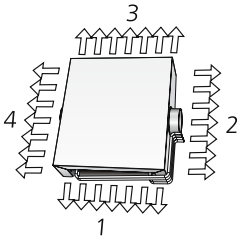
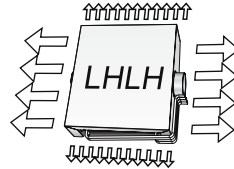

Figure 16. Top view, nozzle setting, ADAPT Parasol EX single-module unit, sides 1-4.
Figure 17. Nozzle setting example, ADAPT Parasol EX single-module unit - LHLH.
***) All four sides on the unit can be set individually. The designation of the nozzle setting follows the order according to Figure 16. See Figure 17 for example.